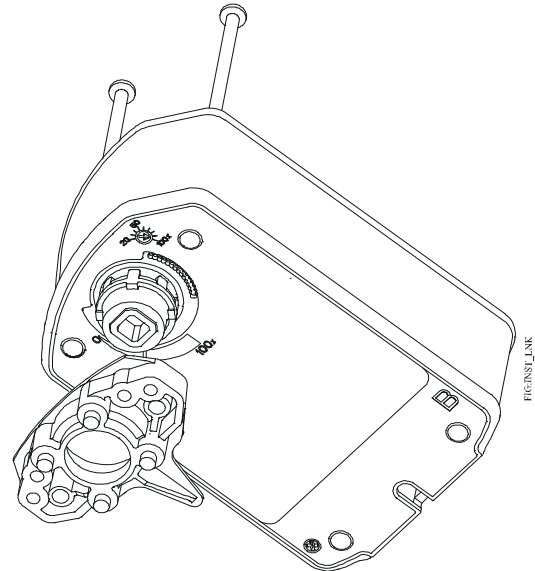

Figure 20: Installing the Linkage
4. Install linkage base on Side B using the two #10-14 x 2.75 in. long screws (Figure 20). The recommended torque is 20 to 24 lb-in. (2.3 to 2.7 N·m).